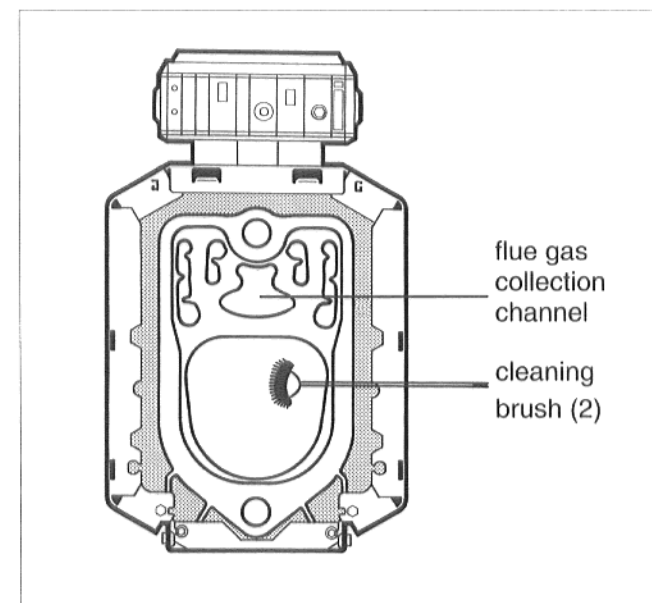

Fig. 36
- Clean the flue gas collection channel and the combustion chamber with the cleaning brush (2) (bent handle) (Fig. 36). Also clean the flue gas collection channel by rotating cleaning brush (2) between the sections.